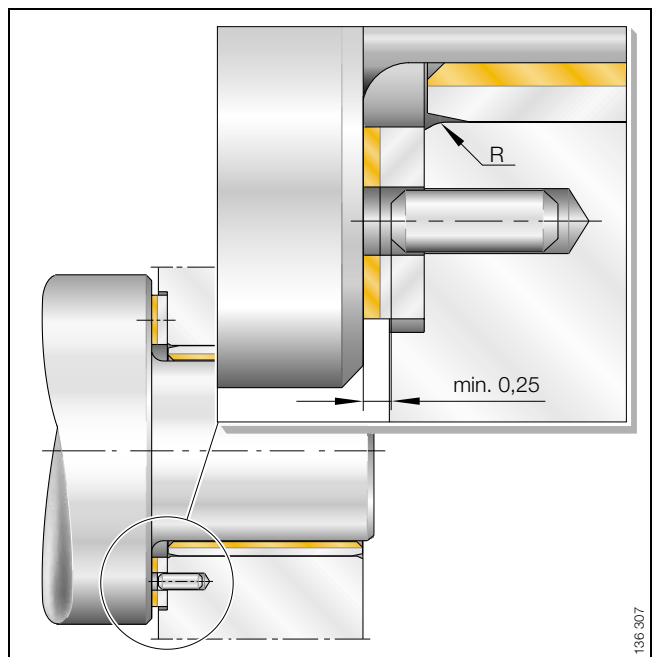

Figure 11 · Location of a PAW thrust washer in a recess in the housing
- concentric seating is ensured by means of recesses in the housing (Figure 11)
- unintentional rotation is prevented by means of a dowel pin or countersunk head screw (Figures 11 and 12)
- the screw head or dowel pin must be recessed by at least 0,25 mm with respect to the running surface (Figures 11 and 12)